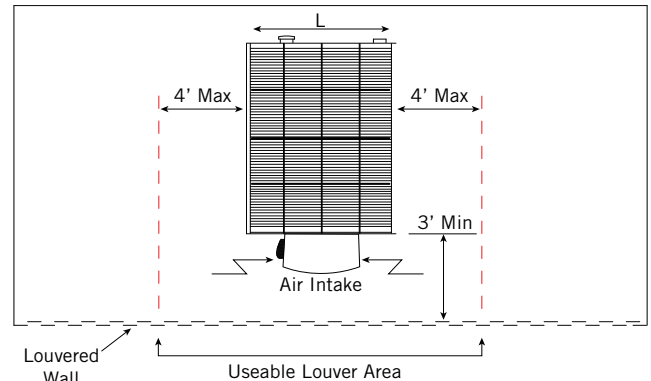

Figure 12. Plan View of Single Air Intake Unit in Enclosure with Louvered Walls and Closed Top Installation
- b. Install the cooling tower with the limitations shown in Figure 12 for uniform air distribution.